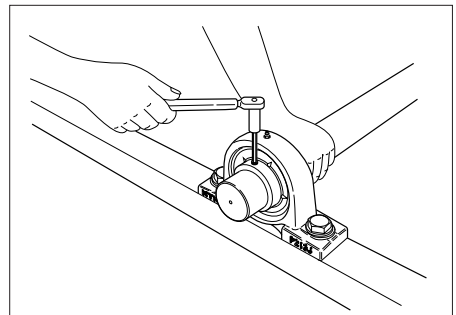

Fig.8.6
- 3) Securely fit an Allen key wrench to the hexagonal socket of a set screw. Then, tighten the two set screws equally with a tightening torque that can be found in **Table 8.1 (Fig.8.6)**.